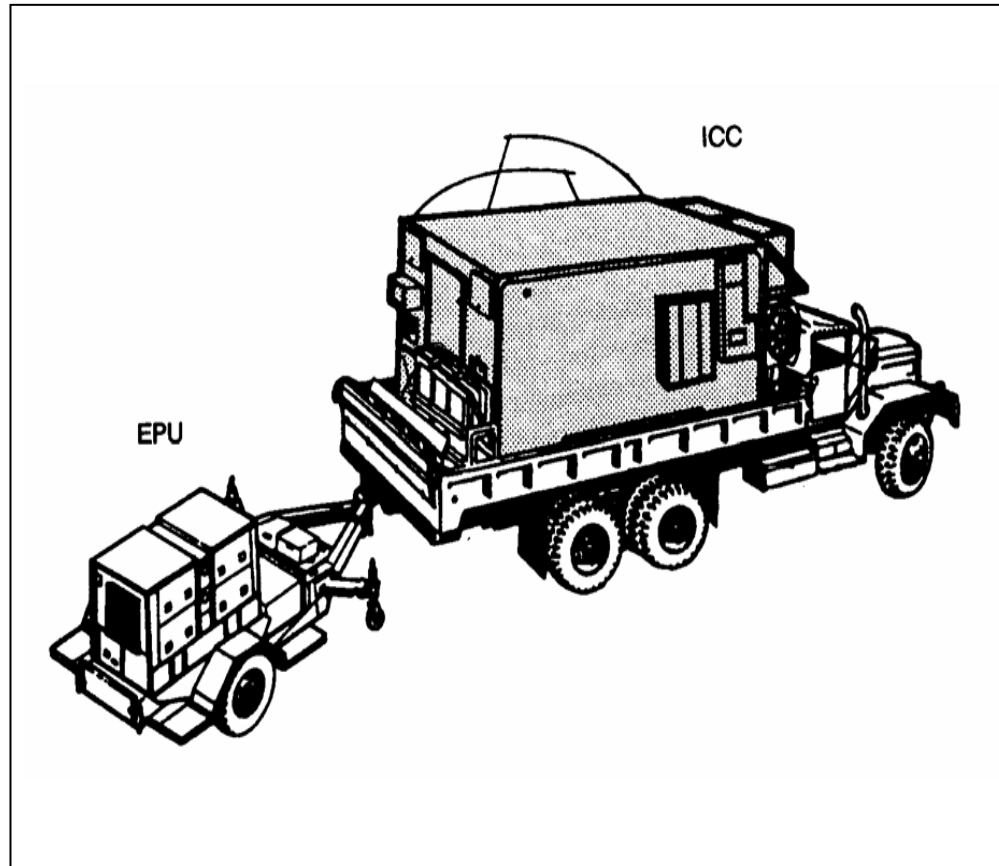

Figure 2-11. March order ICC with EPU
ILLUSTRATIONS: Figure 2-11.
(1) Using a diagram, Figure 2-11, a sand table, or a simple sketch in the dirt, show the crew members how the ICC and EPU should be march ordered.
(2) Tell crew members what their duties are in the drill.
(3) Read the performance measures of the drill to the crew members.
(4) Have each crew member explain their performance measures to ensure that they understand them.